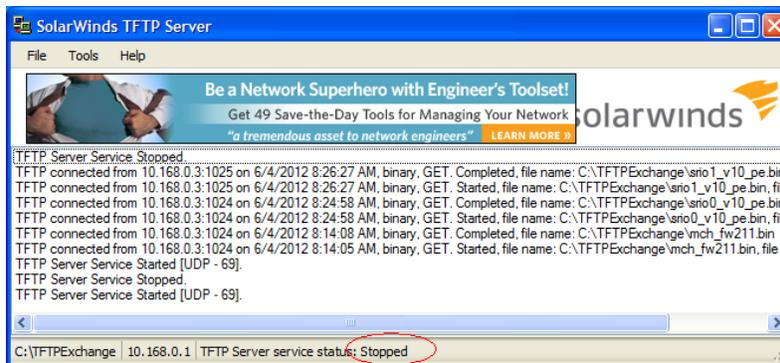

Figure 2-33: Verifying the Server is Stopped
22. Verify that the server has been stopped, as shown in Figure 2-33.